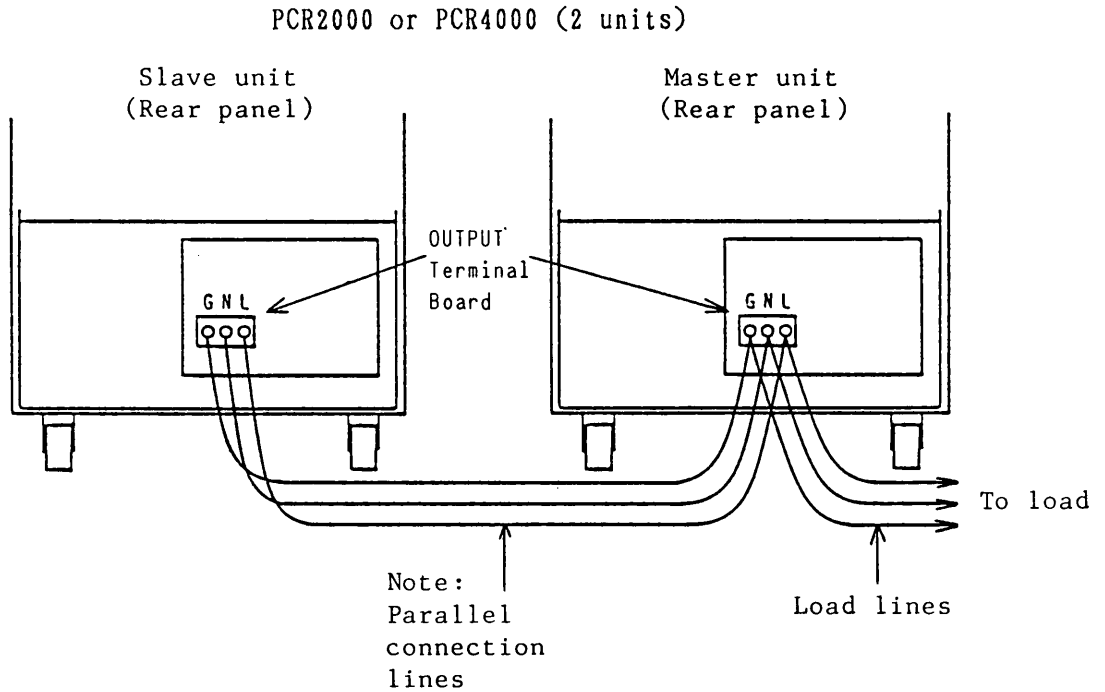

Figure 3-5
- 1) The output voltage range is 100V, and two units of PCR2000 or PCR4000 Frequency Converters are to be used for parallel operation. (See Figure 3-5).